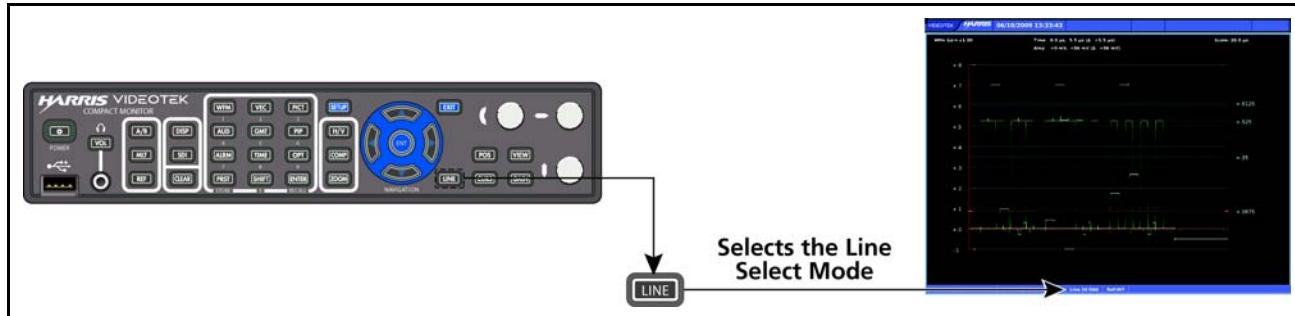

Figure 4-7 Establishing Line Select
- 1 Press the **LINE** button to place the selected waveform display in Line Select mode. At the bottom-center of the display, the Line number and the Odd or Even field appear, as shown in **Figure 4-7**.